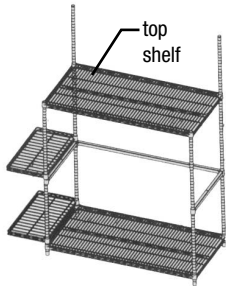

figure 5
- Slide shelf down rear posts and onto split sleeves (see figure 5).